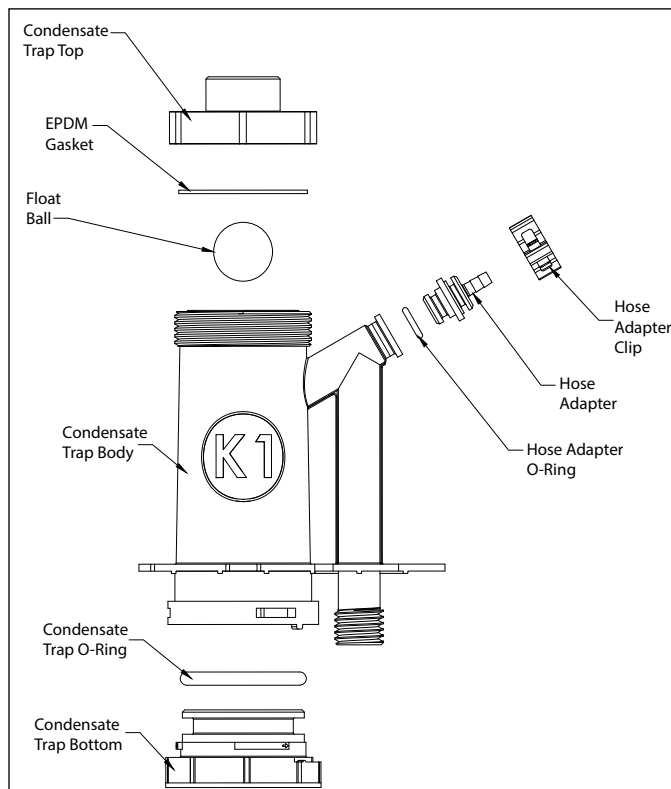

Figure 65 - Condensate Detail
**NOTE:** Ensure all parts shown in Figure 65, Condensate Detail, are installed with the condensate trap. If any parts are missing DO NOT reinstall the trap. Replace the entire assembly.